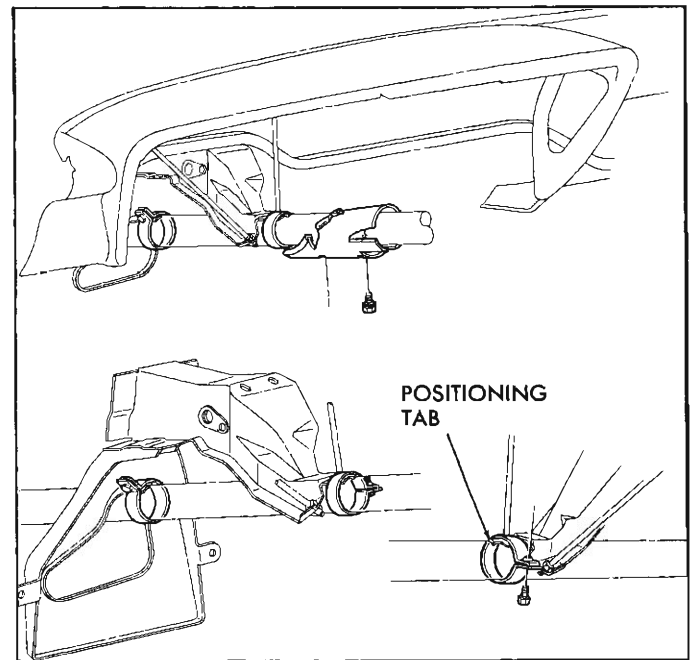

Fig. 39—Installing Mast Jacket
2. Engage tang on mast jacket support (fig. 39) and